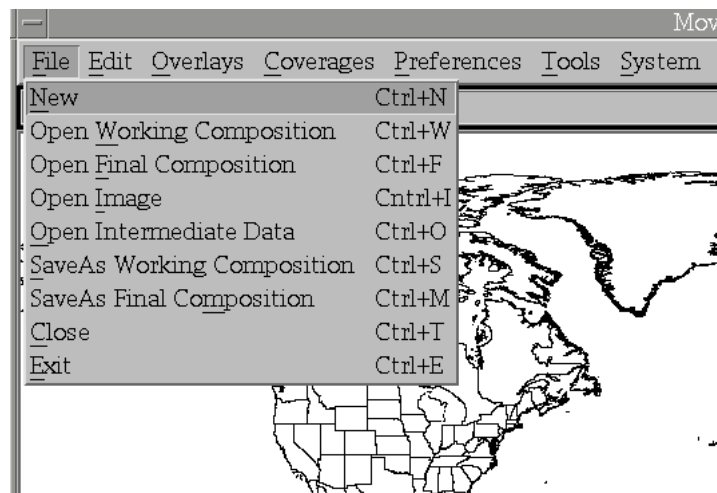

Fig. 11 – File menu
- a. From the main menu, click on *File*, then *New* (Fig. 11).
- a. From the main menu, click on *File*, then *SaveAs Final Composition* (Fig. 11).
- a. From the main menu, click on *File*, then *Open Image* (Fig. 11), select *AOD*, and then *Hard Disk*. This will open the AOD Image on hard disk that you just built.
- a. From the main menu, click on *File*, then *Open Image* (Fig. 11), select *MPS*, and then *Hard Disk*. This will open the MPS Image on hard disk that you just built.